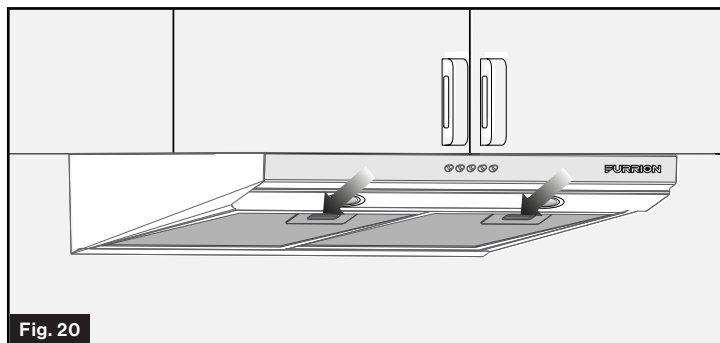
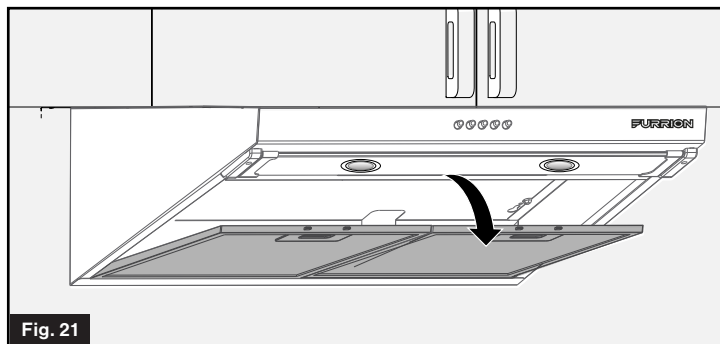

Fig. 20
Fig. 21
1. Press the two release tabs on the grease filters, then lift the filter outward to take the filter off and then place it on a flat surface. (Fig. 20 & Fig. 21)